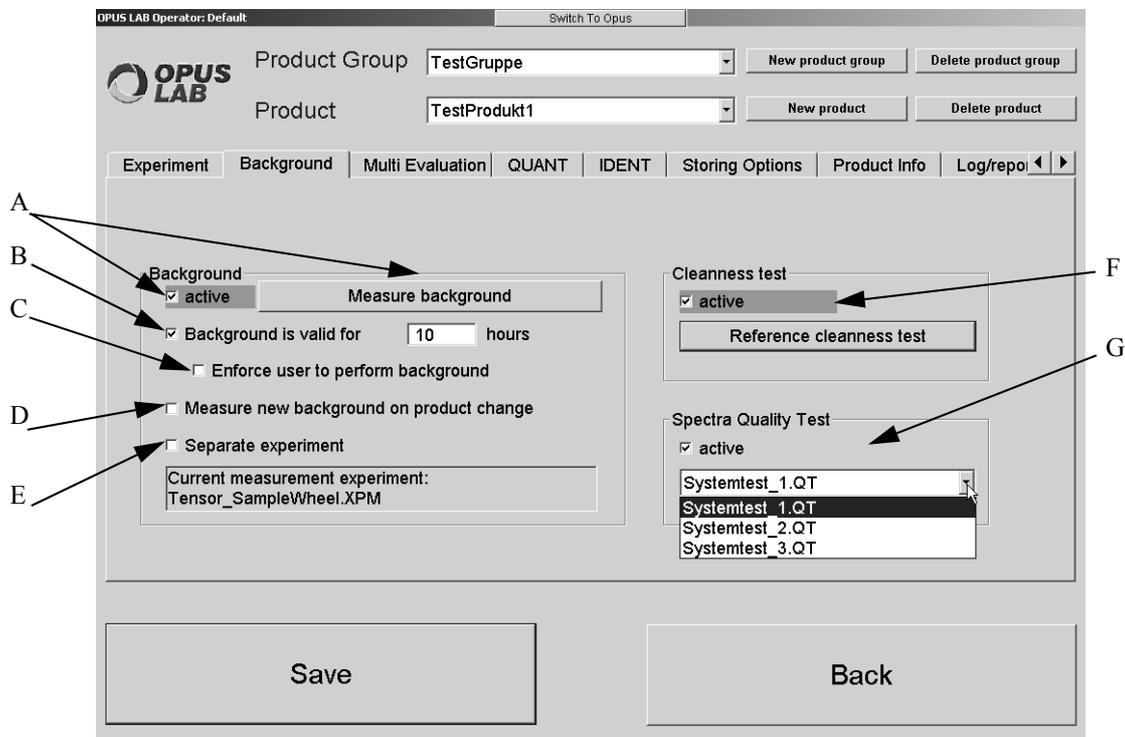

Figure 9: OPUS LAB Product Setup - Background
- A) If the *Active* check box is activated, background measurements can be performed at any time. When clicking on the *Start* button (see chapter 2.3.2), another dialog opens with the *Measure background* button displayed. Click on this button. If the *Active* check box (figure 9) is deactivated, the *Measure background* button will be grayed out.